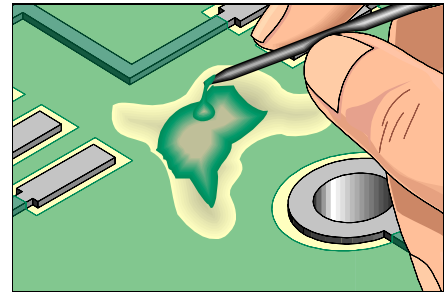

Figure 4: Apply the epoxy with a mixing stick sharpened at the end.
6. Fill the area with epoxy up to and flush with the PC board surface. No fibers of laminate material should be exposed. A mixing stick sharpened at the end may be used to apply and spread the epoxy. For large areas, apply the epoxy with a foam swab to create a texture in the surface. (See Figures 4 and 5).